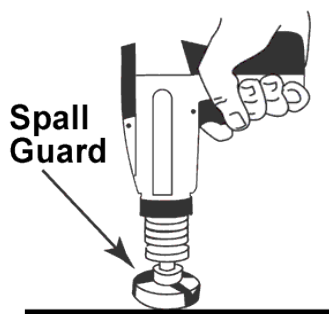

Fig. 7A
- If spall is an appearance problem, the appearance can be improved by fastening using a spall reducing adapter (see Fig. 7A & 7B).